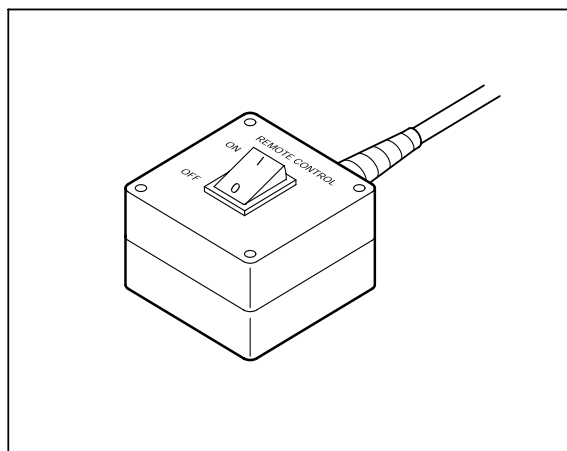

Fig. 4-1 **REMOTE CONTROL** switch
- Turn the **REMOTE CONTROL** switch to "ON" position (see Fig. 4-1).